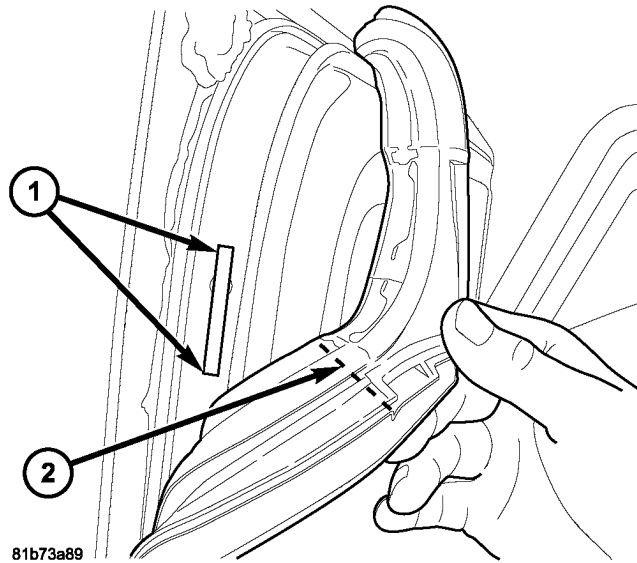

Fig. 2 SIDE WINDOW FRAME
4. Apply Weatherstrip Adhesive per the material instructions in a 4 - 6mm (3/16 in. - 1/4 in.) diameter bead x 50mm (2 in.) strip to the channel on the side. Start the beads at a point even with the joint line on the seal corner to the rubber Weatherseal. The Weatherstrip Adhesive should not extent past the joint line of the corner material (Fig. 2).